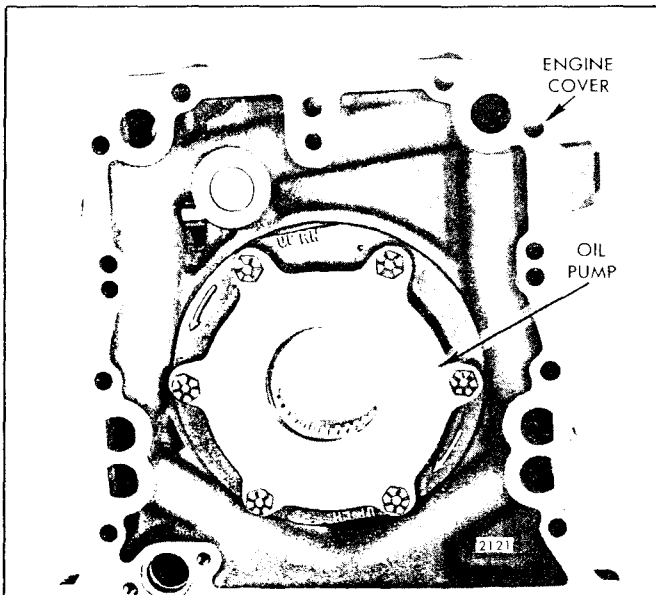

Fig. 1 - Typical Right-Hand Rotation Lubricating Oil Pump Mounting
The lubricating oil pump, assembled to the inside of the lower engine front cover as illustrated in Fig. 1, is of the rotor type in which the inner rotor is driven by a gear pressed on the front end of the crankshaft. The outer rotor is driven by the inner rotor. The bore in the pump body, in which the outer rotor revolves, is eccentric to the crankshaft and inner rotor. Since the outer rotor has nine cavities and the inner rotor has eight lobes, the outer rotor revolves at eight-ninths crankshaft speed. Only one lobe of the inner rotor is in full engagement with the cavity of the outer rotor at any given time, so the former can revolve inside the latter without interference.
6. Remove the six bolts and lock washers (if used) which attach the pump assembly to the engine front cover (Fig. 1) and withdraw the pump assembly from the cover.